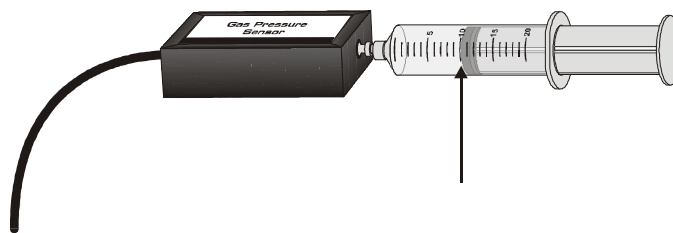

Figure 1
3. Position the piston of the 20 mL syringe so that there will be about ~ 10 mL of air trapped in the barrel of the syringe. Attach the syringe to the valve of the gas pressure sensor, as shown in Figure 1. A gentle half-turn should make a secure air-tight connection between the syringe and the sensor.
5. (The following operation is easier with two people.) Adjust the volume to a chosen value by withdrawing or pressing in the syringe barrel. **Note:** Read the volume at the inside edge of the black ring on the piston of the syringe, as indicated by the arrow in Figure 1. Click the Keep button. This will record the pressure, and will open a small input window. Type in the volume using the computer keyboard, and click “OK”. Each data point will be recorded in the columns to the left of the screen, and a graph of pressure plotted against $1/\text{volume}$ will be displayed.